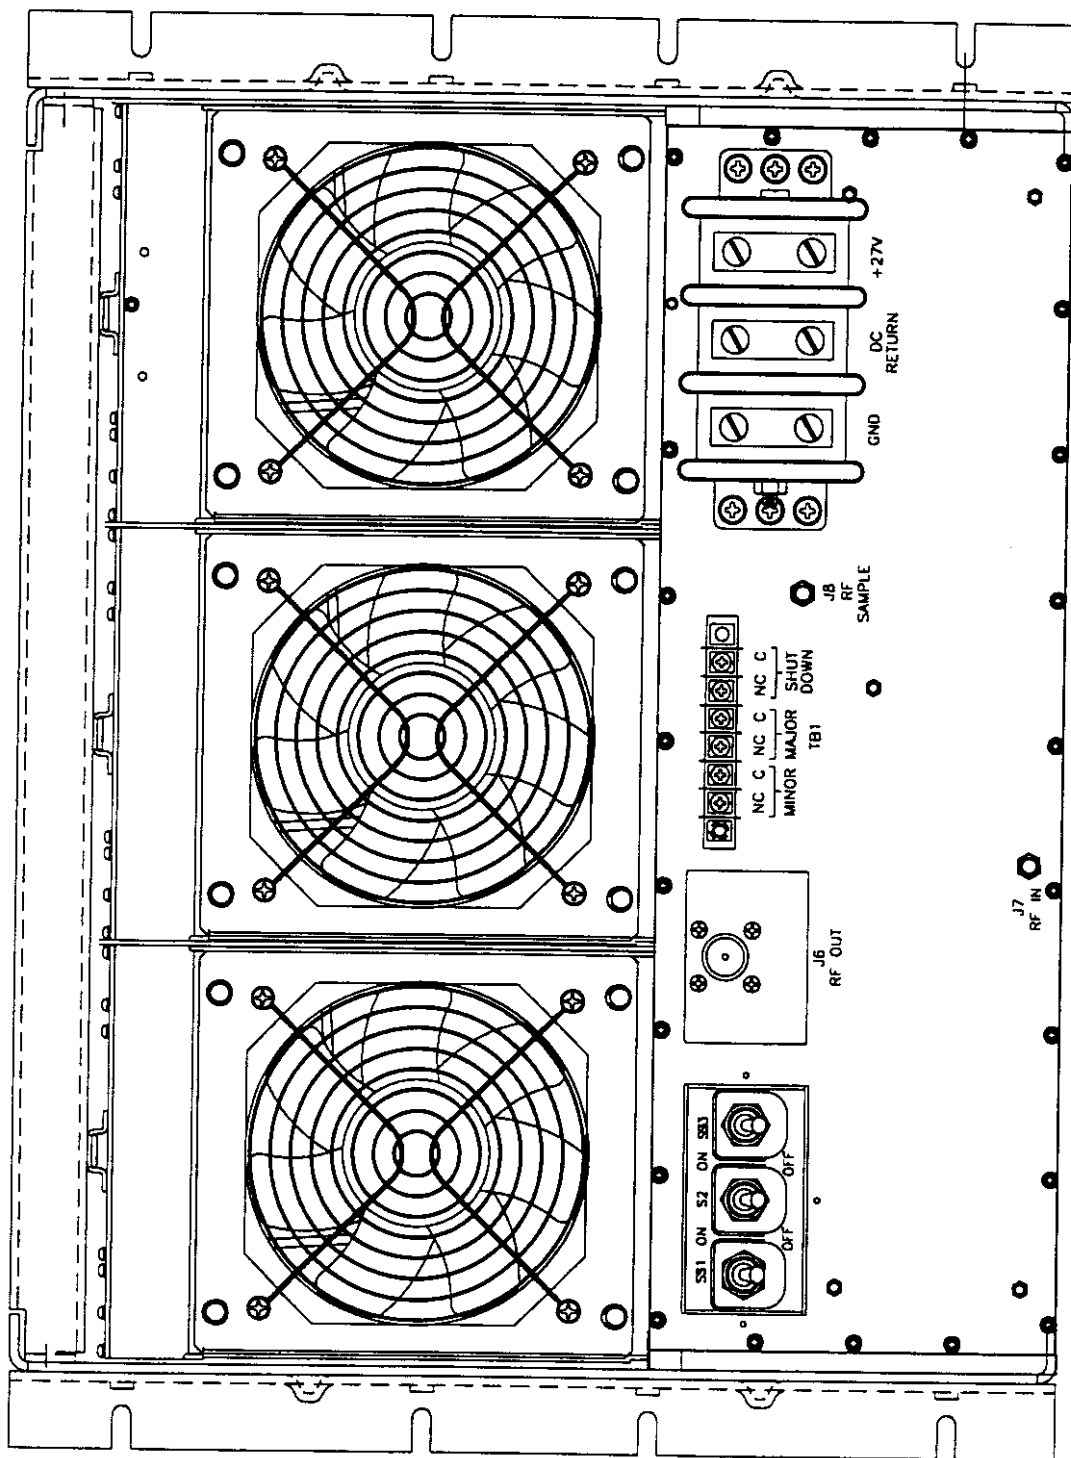
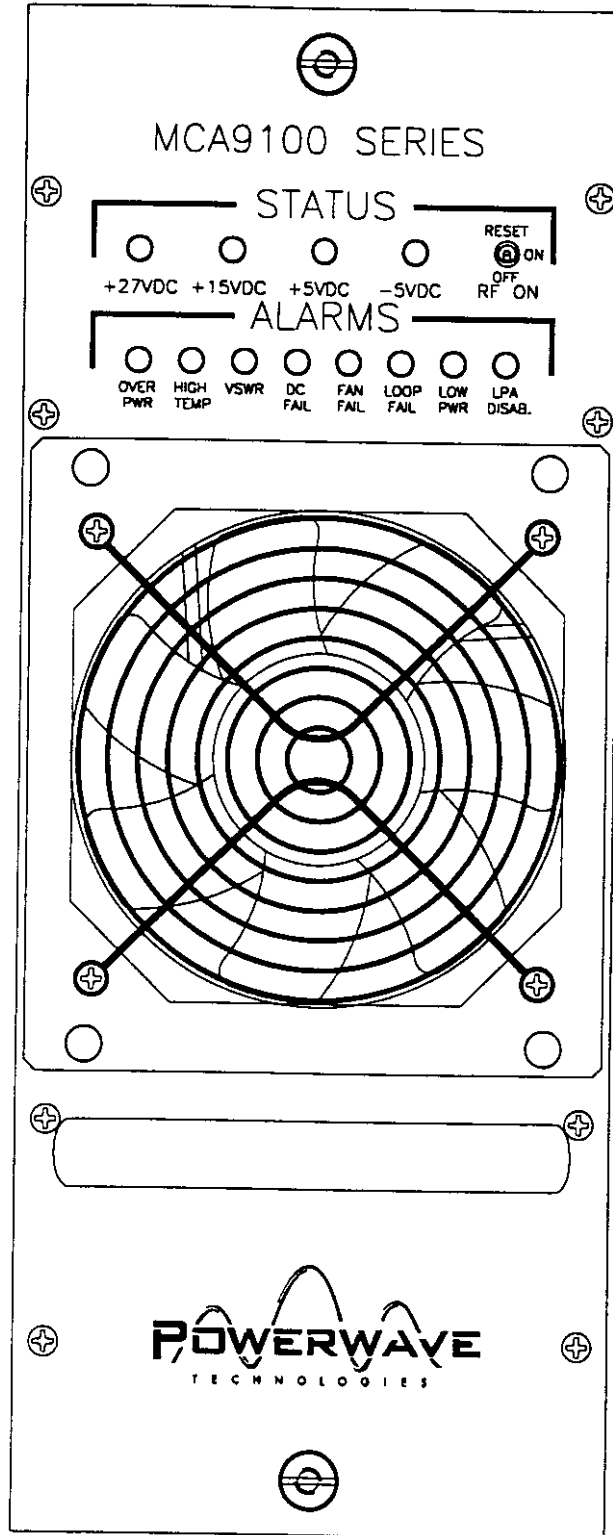

Figure 3-1. MCR3100 with Three Amplifier Units, Rear View
Figure 3-4. Model MCA9100-50 Amplifier Module Control and Indicators
2. Refer to figures 3-1 and 3-2 for the location of all subrack input/output connectors and figures 1-3 and 1-4 for 24-way combiner connectors.
The amplifier system subracks are rack mountable chassis. The location and function of the system interface connectors and circuit breakers are shown in figures 3-1, 3-2, and 3-3, and are described in tables 3-1 and 3-2. The plug-in amplifier module controls and indicators, are shown in figure 3-4 and are described in detail in table 3-3.